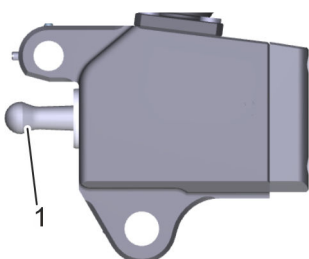
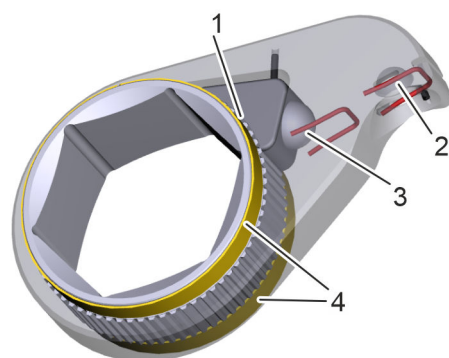

Fig. 27: Piston rod
Fig. 28: Ratchet lever
8. ➔ Lubricate the piston rod's ball head (Fig. 27/1) and the ratchet lever's ball socket (Fig. 28/2). Do so by letting lubricant drip onto the ball head from a grease gun.